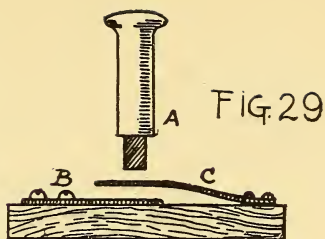
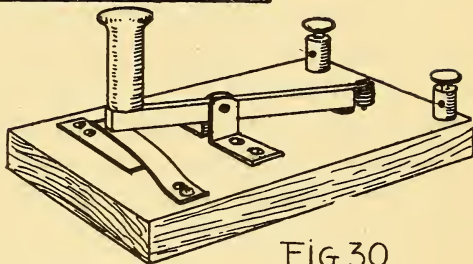
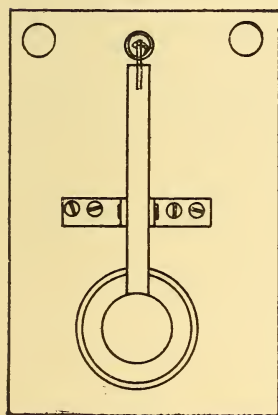
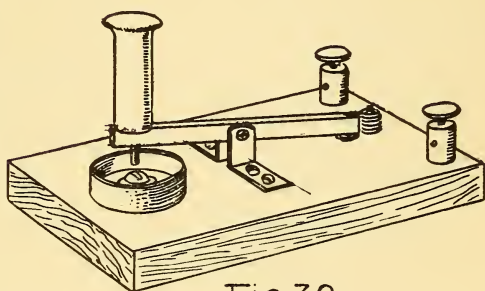

FIG. 29
FIG. 30
FIG. 31
FIG. 32
is given in Fig. 29. The strip (B) lies flat on the block, and is connected with one binding-post by a wire attached under one screw-head and run along the under side of the base in a groove to the foot of the post. Strip C is of spring-brass, and is made fast to the base with screws. This is "dead," as no current passes through it, and its only use is to interrupt. The bar (A) is arranged as explained for the line telegraph-key, and the remaining binding-post is connected to it by a wire run under the base and brought up to one of the angle-pieces forming the hinge. A high wood or porcelain knob is made fast at the forward end of the bar, so that when high-tension current is employed the spark will not jump from the bar to the operator's hand. The complete key ready for operation is shown at Fig. 30, and to make it permanent it should be screwed fast to the table, or cabinet, on which the coil and condenser rest. The plan of a "wet" key is shown in Fig. 31, and the complete key in Fig. 32.